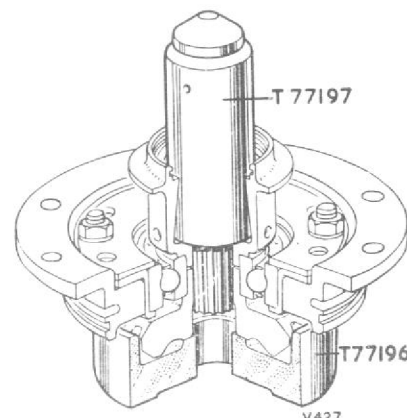

Fig. 19. Assembling the breather chamber to the bore of the generator vertical drive bevel gear
- (2) Position the small end of the double adapter guide T77192 in the bore of the gear.
- (3) Set the ball bearing assembly, with the flange of the housing uppermost, on the guide adapter; using adapter T77190, press the ball bearing assembly into position.
- (4) Remove both the adapter and the adapter guide.
- (5) Set the breather chamber (50), with the flange uppermost, on the serrated spigot of adapter T77197 (*fig. 19*).